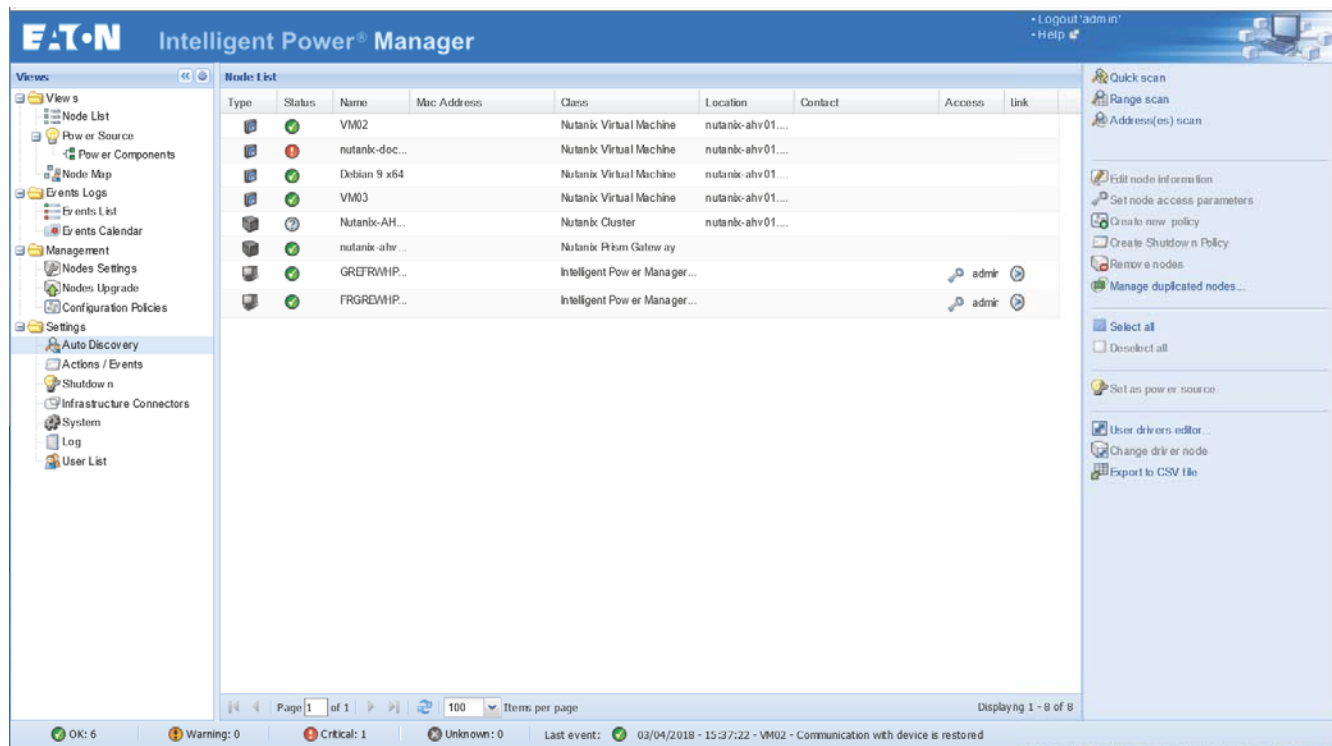

Figure 4. Quick Start - Auto Discovery Page
- Display the discovered nodes using **Settings > Auto Discovery** (see Figure 4).